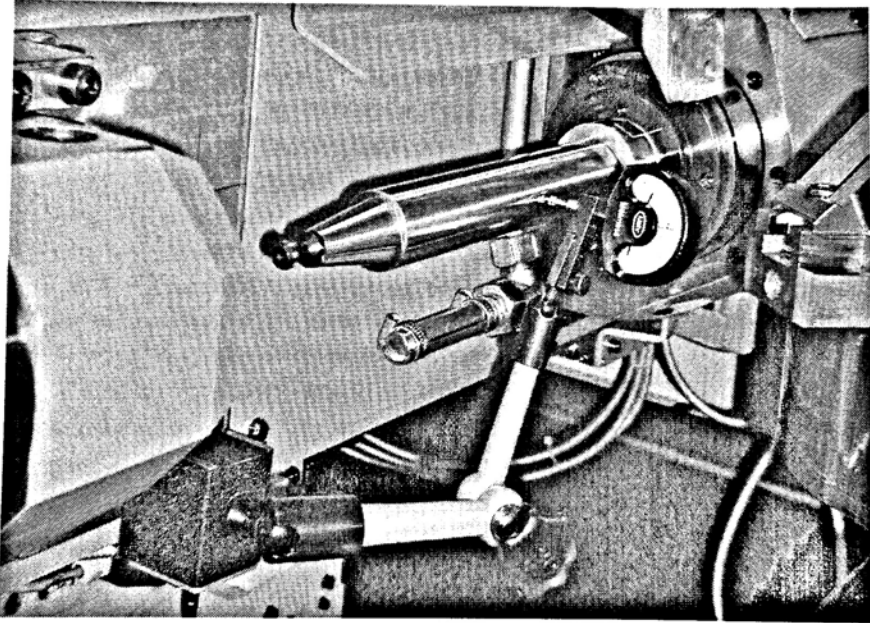

Figure 8 Measuring radial run-out, self-supporting
- Place dial gauge against the measuring arbor (see figure 8).